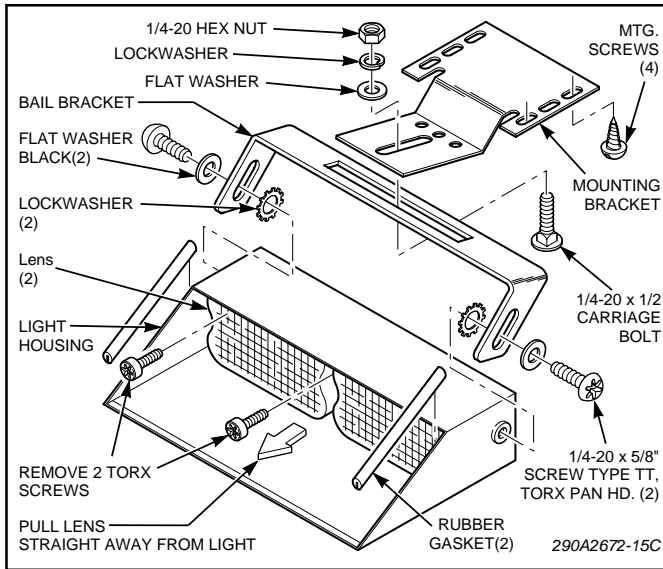

Figure 3.
6. See figure 3. Assemble the bail bracket to the light assembly using the two 1/4" x 1/2" hex head screws, external tooth lockwashers, and black flat washers. Do not tighten the screws at this time. Cut the rubber gaskets to length and assemble to the sides of the light assembly as shown in figure 3.
7. See figure 3. Assemble the light assembly/bail bracket to the mounting bracket's center slot using the 1/4-20 carriage bolt, flat washer, split lockwasher, and 1/4-20 nut. Do not tighten the nut at this time.
- a. See figure 3. Remove and retain the two screws which secure the lens. Carefully pull the lens straight away from the light assembly.
b. Remove and retain the two screws and lockwashers which secure the light assembly to the mounting bracket (see figure 3).